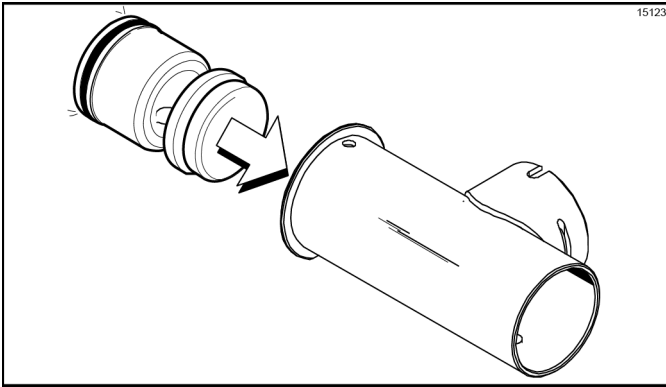

Figure 6-33
4. Insert the piston into the retaining pin hole end of the pump cylinder. (See Figure 6-33.)